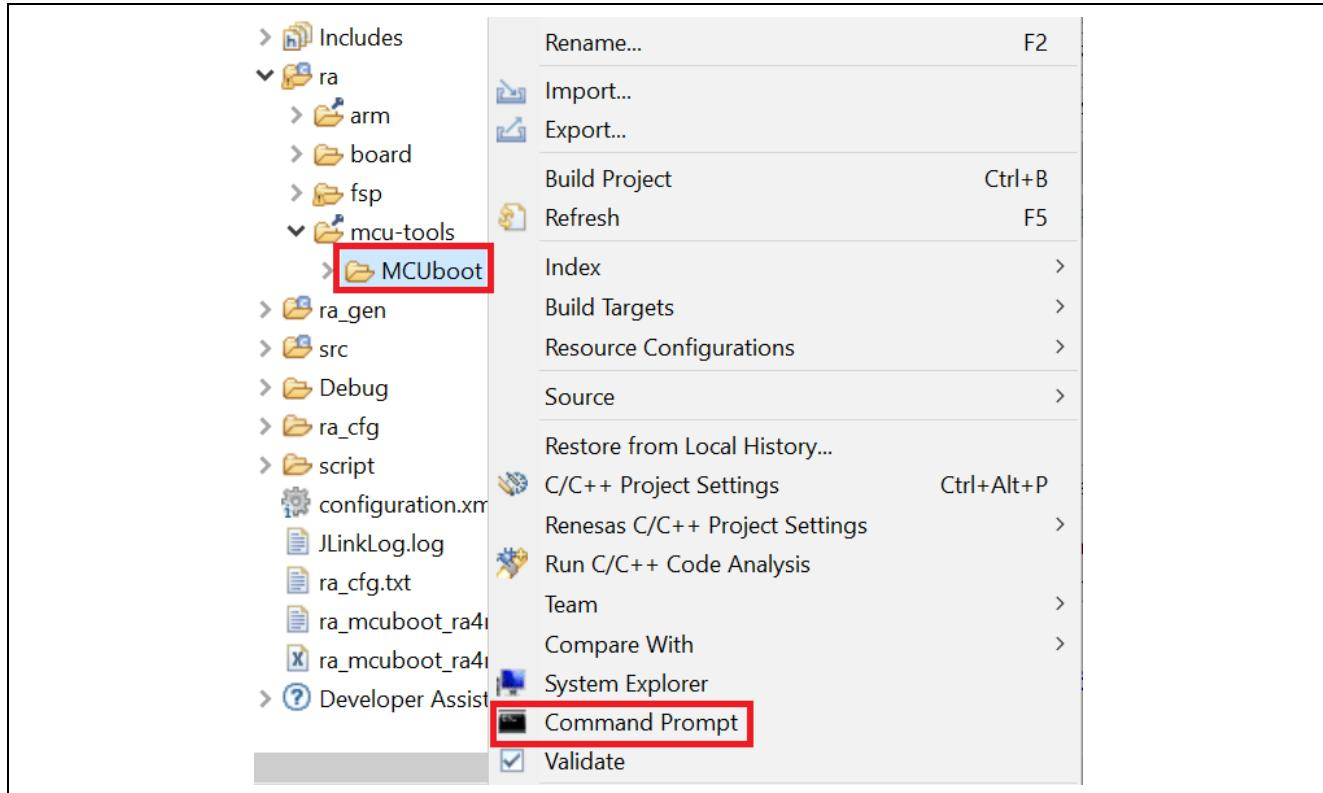

Figure 14. Open the Command Prompt
3. Right click to `MCUBoot` folder and select **Command Prompt** as shown in Figure 14. This will open a command window with the path set to the `\mcu-tools\MCUBoot` folder.